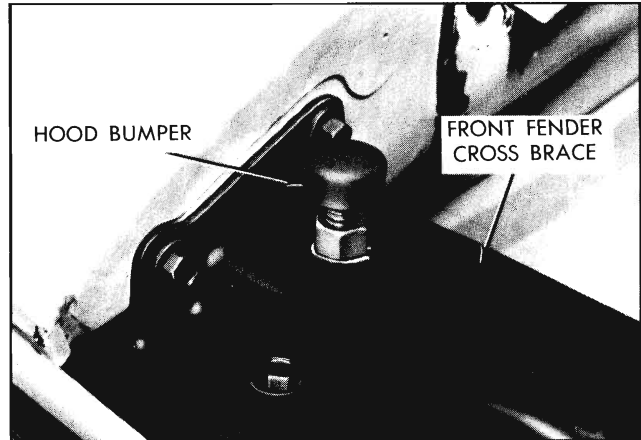

Fig. 10-7 Hood Bumper
2. Raise or lower hood bumpers on front fender cross brace (Fig. 10-7).